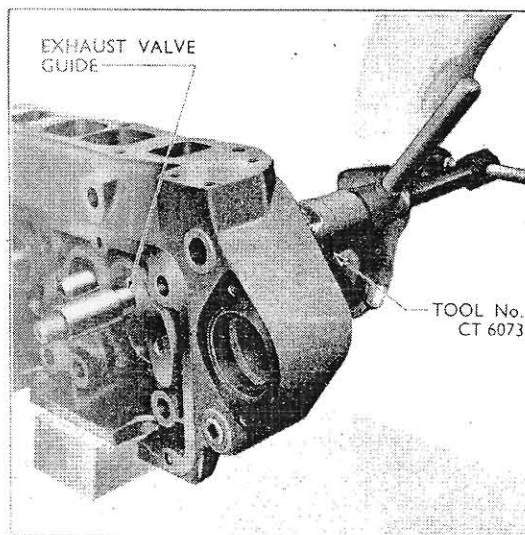

Fig. 9.
- iv Pull the guide into position by winding on the wing nut of the main tool (see Fig. 9). The